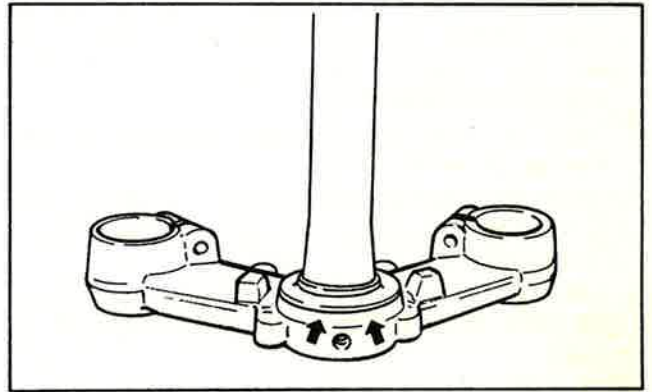

Fig. 5-7-9
15. Remove the bearing race from the lower bracket by tapping around its diameter with a drift punch and hammer. (Fig. 5-7-9)